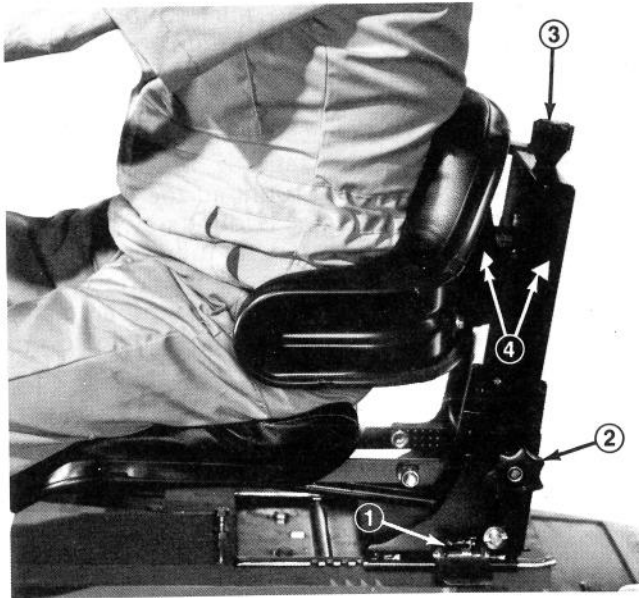

Figure 22
**Suspension Seat** — (Fig. 22) — Bucket type seat with armrests on seat back. Lever on left side allows five inch (12.7 mm) fore and aft adjustment. Clamp type knobs allow seat height to be set and maintained at constant setting or re-adjusted for different operators. Knob at rear of seat back controls spring tension adjustment to compensate for weight of operator and insure proper operation of interlock switch (Fig. 22). Aligning white arrows with operator on seat will provide maximum performance and comfort.